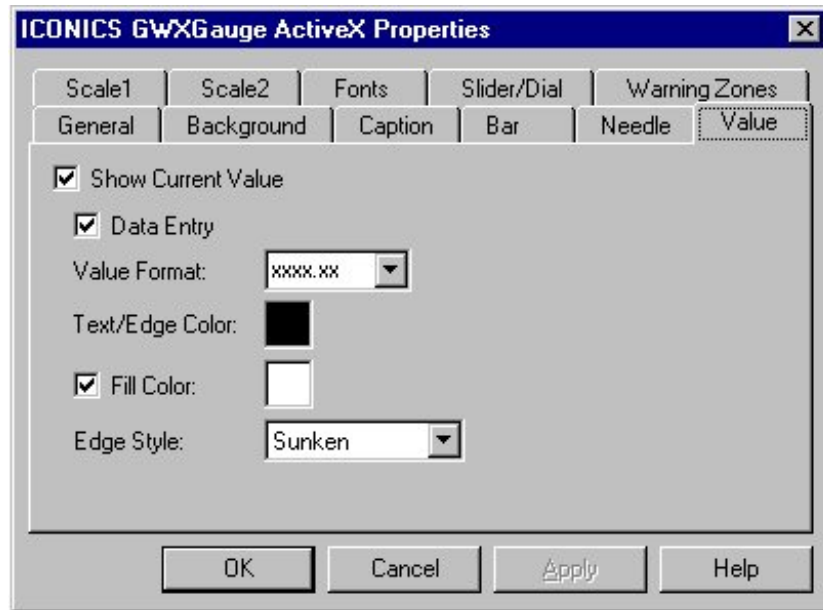

Figure 15-9: GWXGauge ActiveX Properties Dialog Box: Value Tab
2. Select the Value tab (Figure 15-9).